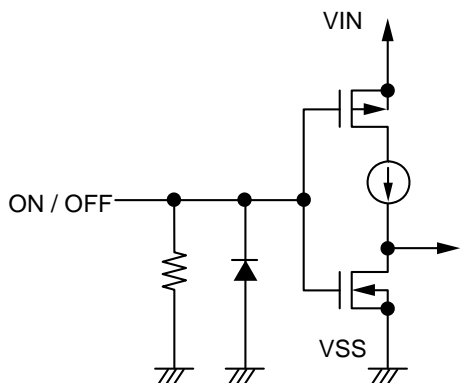

Figure 31 S-13A1 Series A / C type
When the ON / OFF pin is set to OFF level, the entire internal circuit stops operating, and the built-in P-channel MOS FET output transistor between the VIN and VOUT pins is turned off, reducing current consumption significantly. Note that the current consumption increases when a voltage of 0.3 V to $V_{IN} - 0.3$ V is applied to the ON / OFF pin. The ON / OFF pin is configured as shown in **Figure 31** and **Figure 32**.
*1. Note that the IC's current consumption increases as much as current flows into the pull-down resistor of 2.5 MΩ typ. when the ON / OFF pin is connected to the VIN pin and the S-13A1 Series A / C type is operating (refer to **Figure 31**).